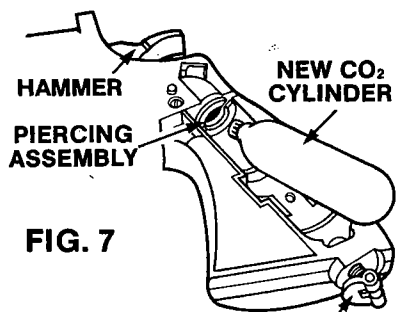

FIG. 7
- A. Insert the new CO₂ Cylinder into the revolver with the small neck of the cylinder pointing toward the hammer. (Fig. 7.)